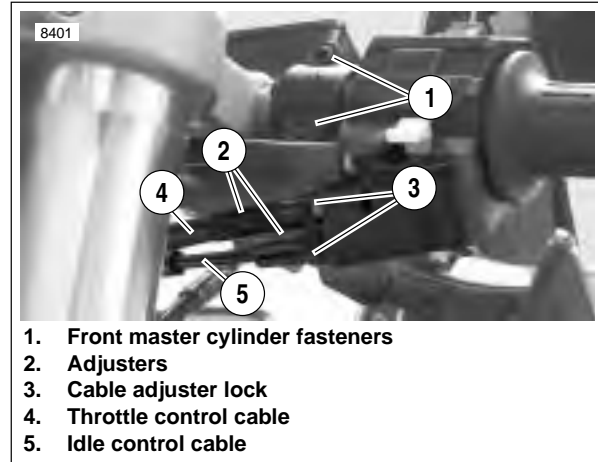
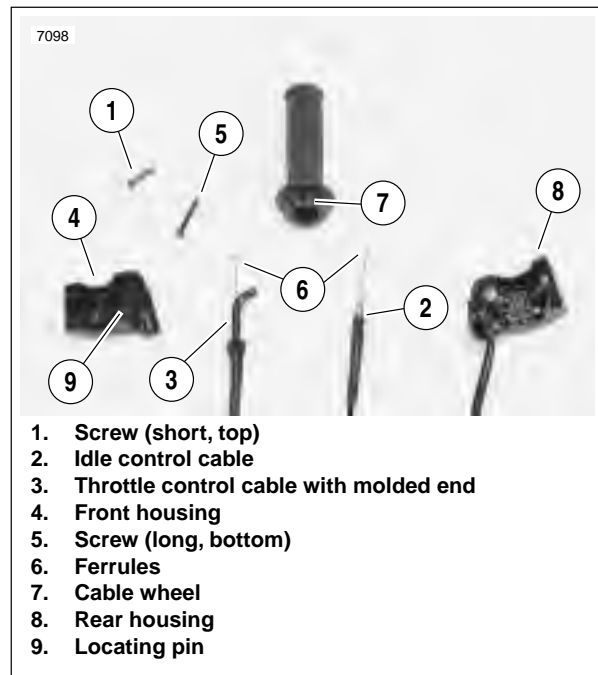

Figure 2-91. Throttle Control Cables
Figure 2-92. Cable Connections
1. See Figure 2-91. Loosen cable adjuster lock (thick disc) (3) on each cable.
2. Turn adjusters (thin disc) (2) in direction which will shorten cable housings to minimum length.
3. Remove fasteners (1) on right switch housing and separate housing from handlebar.
4. See Figure 2-92. Remove cables (2, 3) from notches in front housing (4).
5. Remove ferrules (6) from throttle (7).
3. Install throttle grip and position ferrules (6) into cable wheel (7).
7. See Figure 2-91. Attach rear switch housing and position housings on right handlebar by engaging locating pin on front housing with hole in handlebar. Attach housings with two fasteners, installing longer fastener on bottom. Tighten to 25-33 **in-lbs** (3-4 Nm).